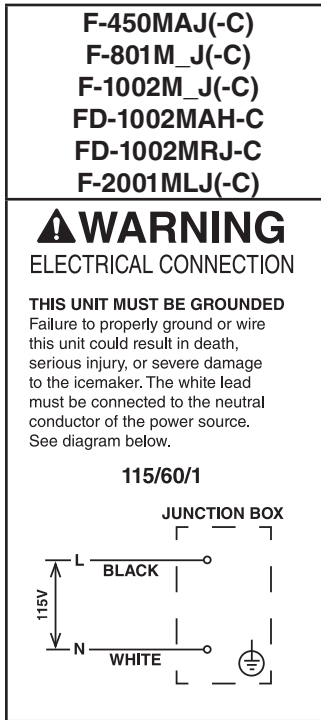

Fig. 3a
- Electrical connection must be made in accordance with the instructions on the "WARNING" tag, provided with the pig tail leads in the junction box. See Figs. 3a, 3b, and 3c.